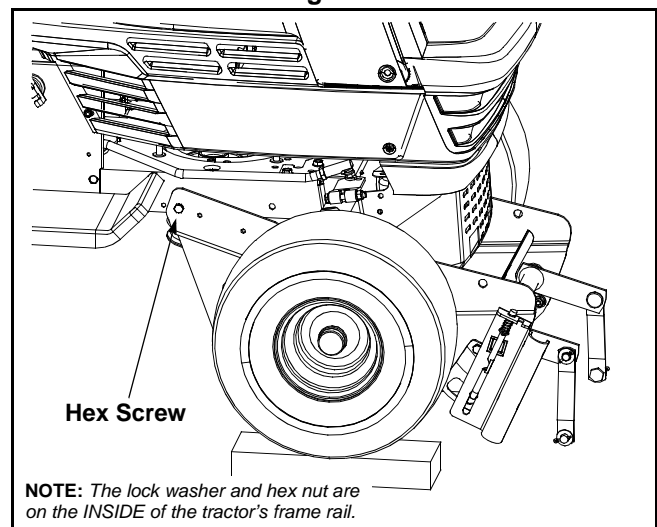

Figure 6
6. Reinsert the rearmost hex screw removed in Step 3 through the aligning holes in both the support carriage assembly and the tractor's frame rail. Fasten with the lock washer and hex nut but do not tighten the hardware at this time. See Figure 6.